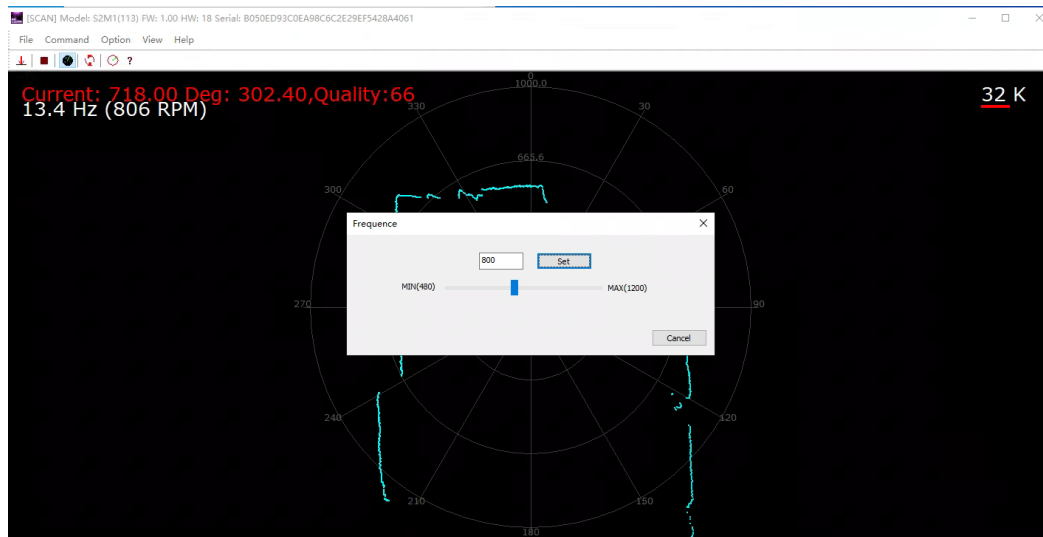

Figure 3-7 Lidar Speed Regulation
7) Click Command > IP Config to configure the IP address. As Figure 3-7 shows resetting the device after the configuration is complete. For SDK, see setLidarIpConf and reset.